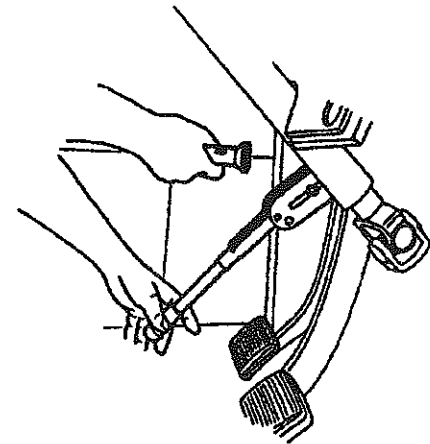

Figure 3 – Visually Inspect
3. Visually inspect the exposed cable core by shining a flashlight beam between the lever side plates (Figure 3). Look for: